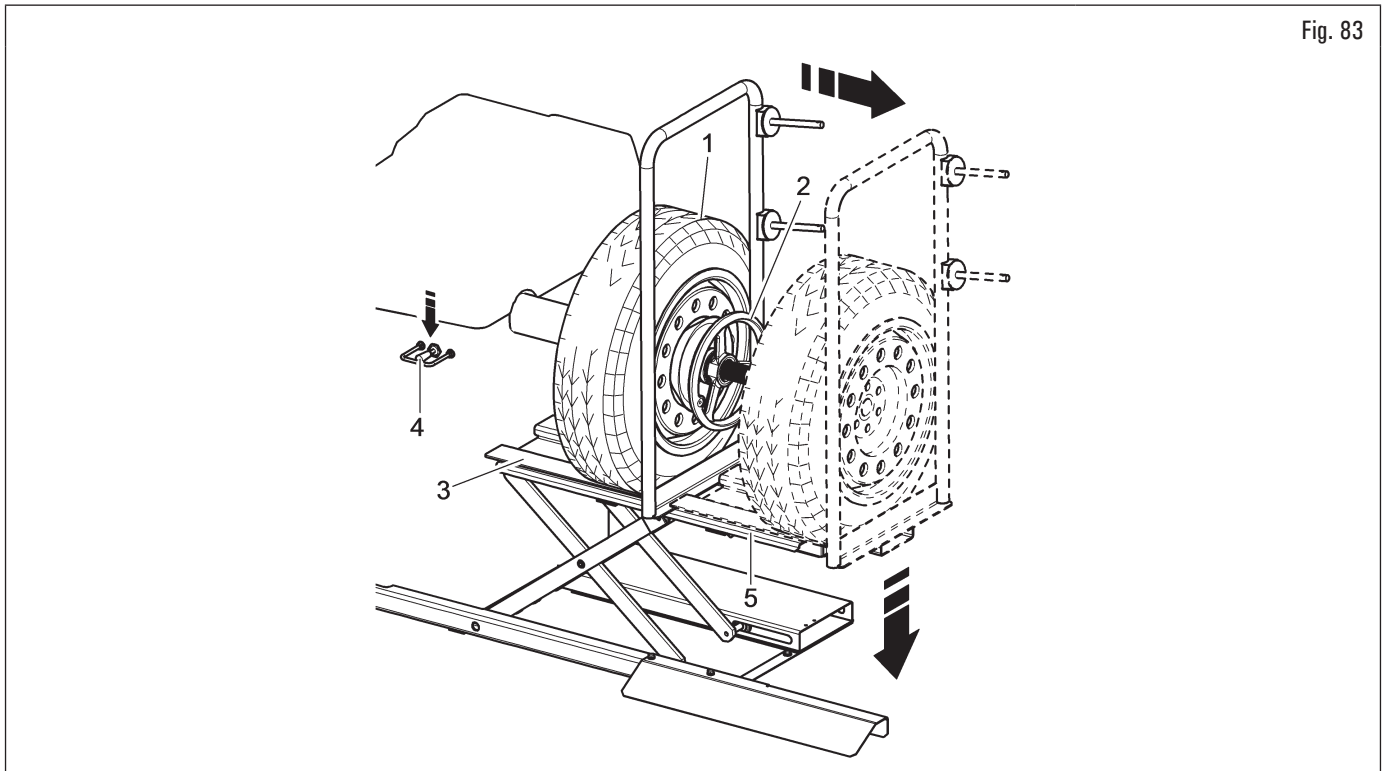

Fig. 83
3. unlock the wheel (Fig. 83 ref. 1) engaged to the chuck, removing the locking devices (Fig. 83 ref. 2);
4. move the wheel support towards the right (Fig. 83 ref. 3) together with the tyre that is leaning against it;
5. lower for descent device control (Fig. 83 ref. 4) and then lower the ground the footboard (Fig. 83 ref. 5);